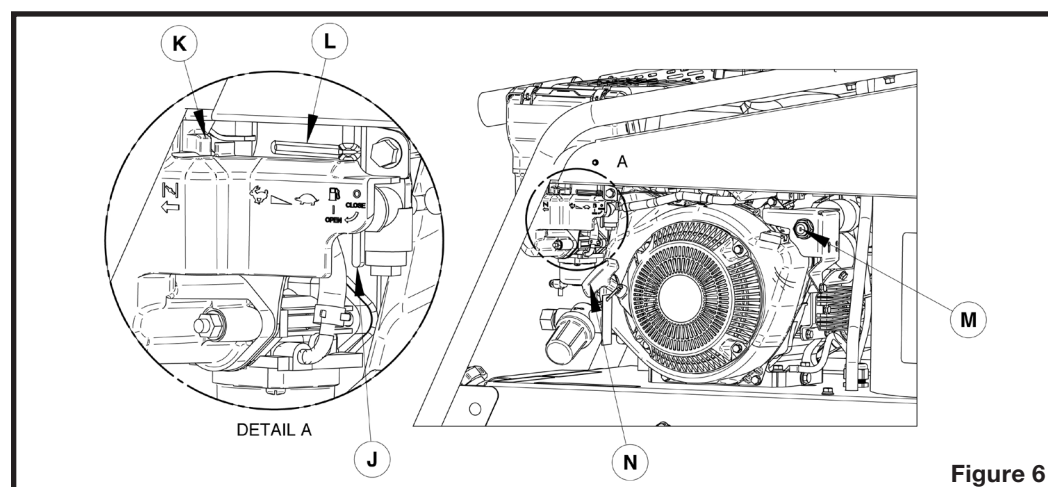

Figure 6
1. Turn down the fuel valve (J on figure 6) to open.
2. Close the choke by moving the lever (K on figure 6) completely to the left.
3. Move the throttle lever (L on figure 6) from the right to 1/3 of the way to the left.
4. Turn the engine switch (M on figure 6) to ON position.
5. Turn the engine switch (M on figure 6) to START position until the engine starts.
7. As engine warms, gradually open the choke by moving the lever (K on figure 6) to the right.
9. Move the throttle lever (L on figure 6) completely to the left, to full throttle.
5. Pull the start grip (N on figure 6) lightly until resistance is felt, and then pull briskly. Do not allow the starter grip to snap back against the engine. Return it gently to prevent damage to the starter.
6. As engine warms, gradually open the choke by moving the lever (K on figure 6) to the right.
8. Move the throttle lever (L on figure 6) completely to the left, to full throttle.